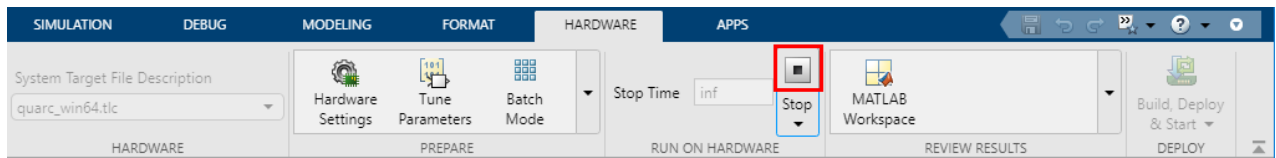

Figure 14: Running Simulink (QUARC+QCAR) Model in External Mode
- b. If the model is successfully built and downloaded to the target. Simulink will automatically connect and start the real-time code on the target and the Monitor Tune button will automatically change to a Stop button (See Fig. 14)